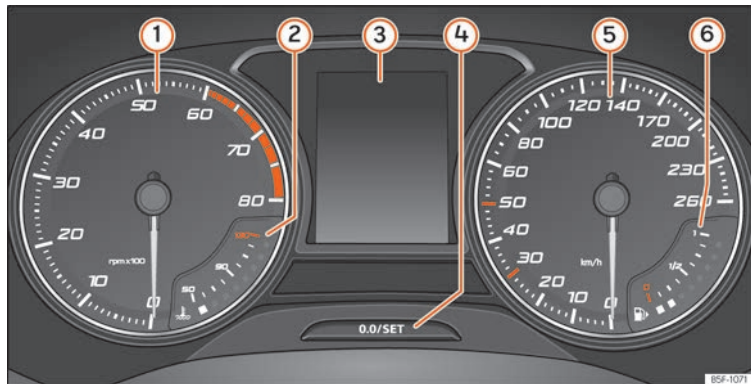

Fig. 111 Instrument panel, on dash panel.
Details of the instruments » **Fig. 111:**
The rev counter indicates the number of engine revolutions per minute » Fig. 111 ①.
① CAUTION
Never allow the rev counter needle ① » Fig. 111 to go into the red zone on the scale for more than a very brief period, otherwise there is a risk of engine damage.
A variety of information can be viewed on the instrument panel display » Fig. 111 ③ depending on the vehicle equipment:
- Bonnet, rear lid and doors open » Fig. 111 ③
- Multifunction display (MFD) and menus with different setting options » Fig. 111 page 27.
- Service interval display » Fig. 111 page 33.
- Speed warning function » Fig. 111 page 32.
- Briefly press the button » Fig. 111 ④ to reset the trip recorder to 0.
- Keep the button ④ pressed for about 3 seconds and the previous value will be displayed.